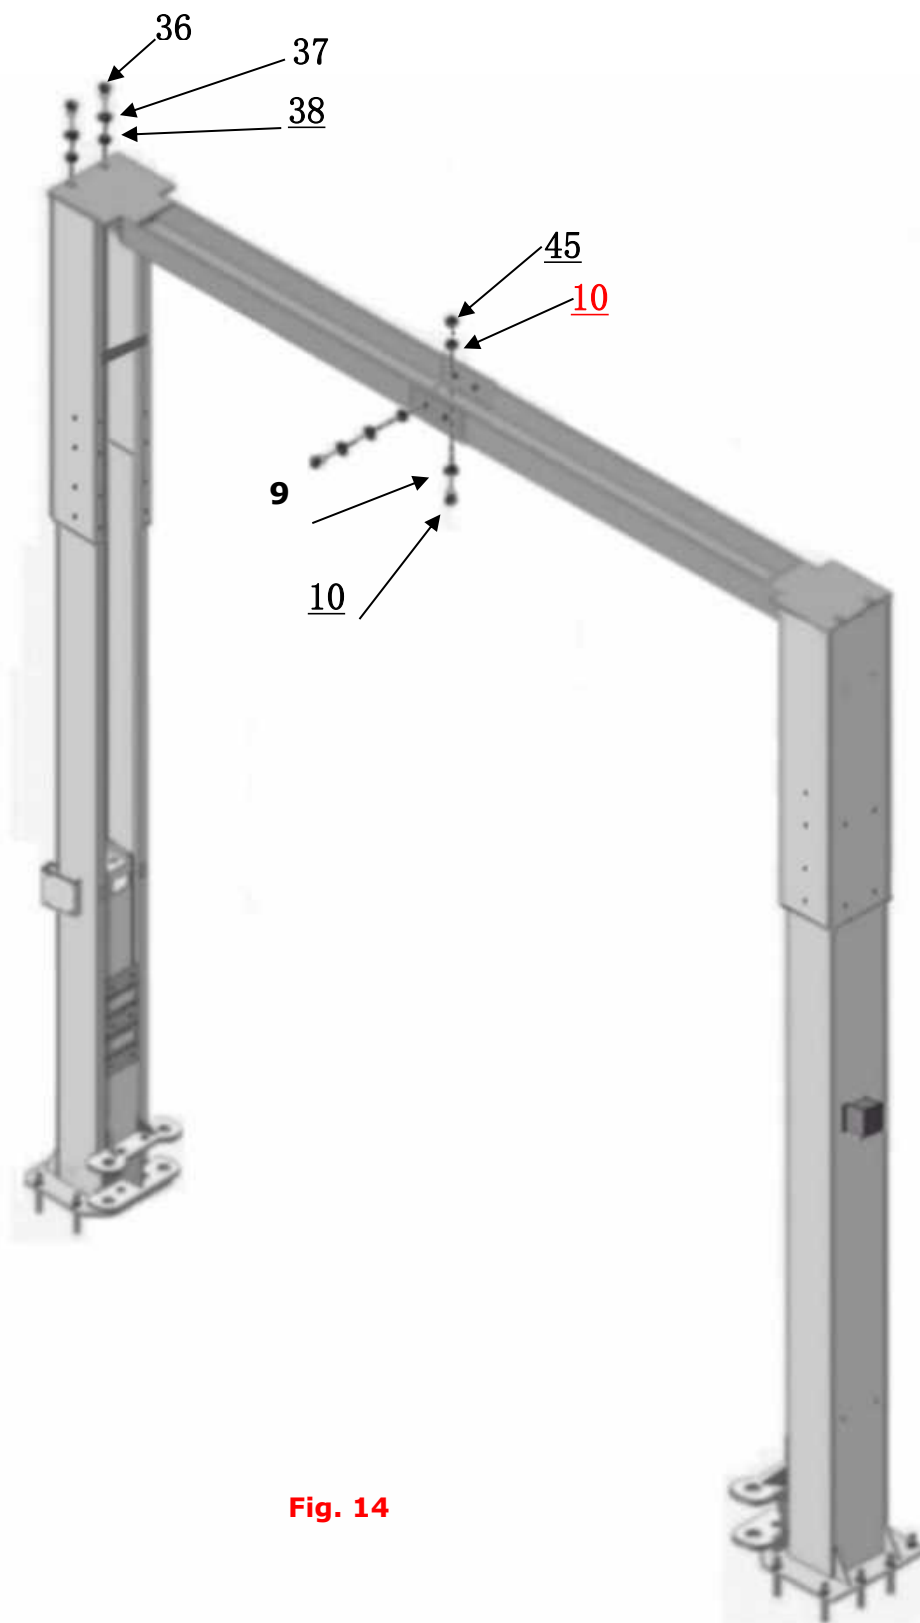

Fig. 14
F. Assemble overhead top beams. (See Fig. 14).